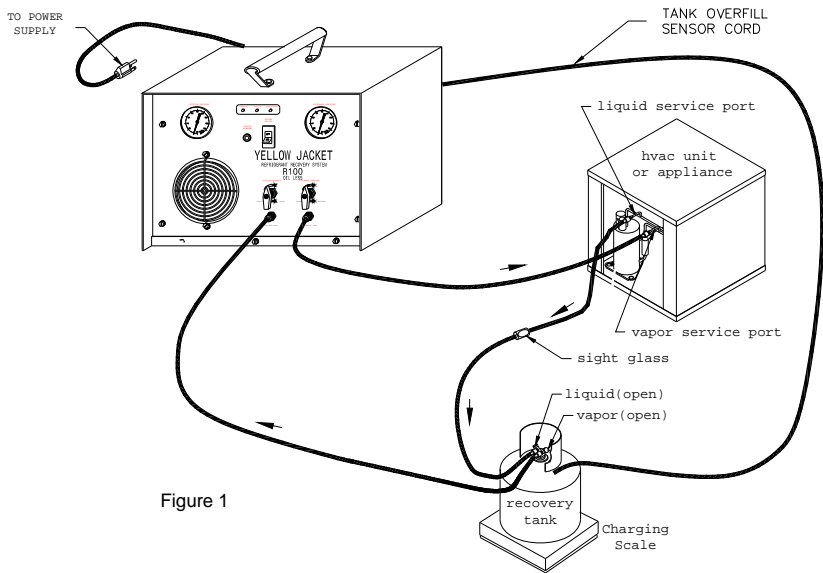

Figure 1
The Push-Pull Liquid Recovery mode is used for transferring large volumes of liquid refrigerant. The R100 “Pulls” vapor from the recovery cylinder and produces high pressure discharge gas that “Pushes” liquid out of a HVAC system into a recovery cylinder. ( see figure 1)
The hose connections for liquid “push” recovery are shown in the figure 1. Perform the following steps for push-pull recovery:
2. Connect the recovery unit, the system to be serviced, and the recovery tank as shown in the figure 1.